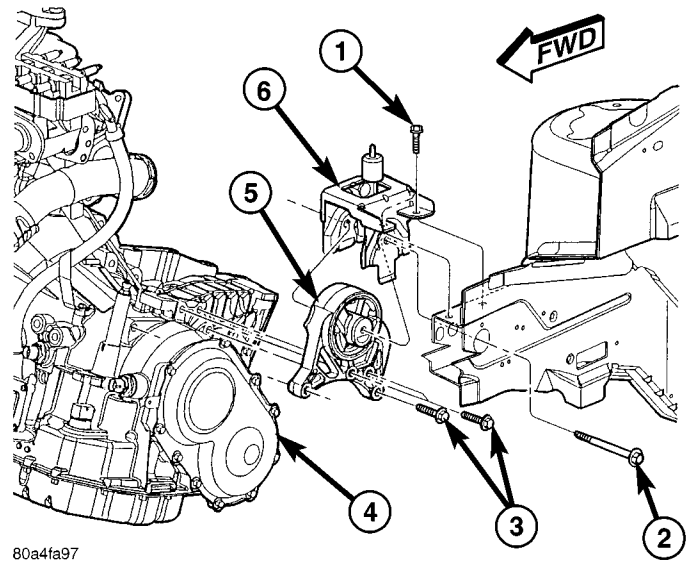

Fig. 159 Left Mount to Bracket and Transaxle
(1) Using a transmission jack and a helper, position transaxle assembly to engine. Install and torque bellhousing bolts to 95 N·m (70 ft. lbs.).
(2) Install upper mount assembly to transaxle and torque bolts to 54 N·m (40 ft. lbs.) (Fig. 159).
(3) Raise engine/transaxle assembly into position. Install and torque upper mount-to-bracket thru-bolt to 75 N·m (55 ft. lbs.) (Fig. 159).
(4) Remove transmission jack and screw jack.
(5) Secure left wheelhouse splash shield.
(6) Install torque converter-to-drive plate bolts and torque to 88 N·m (65 ft. lbs.).
(7) Install inspection cover.
(8) Install lateral bending brace.
(9) Install starter motor.